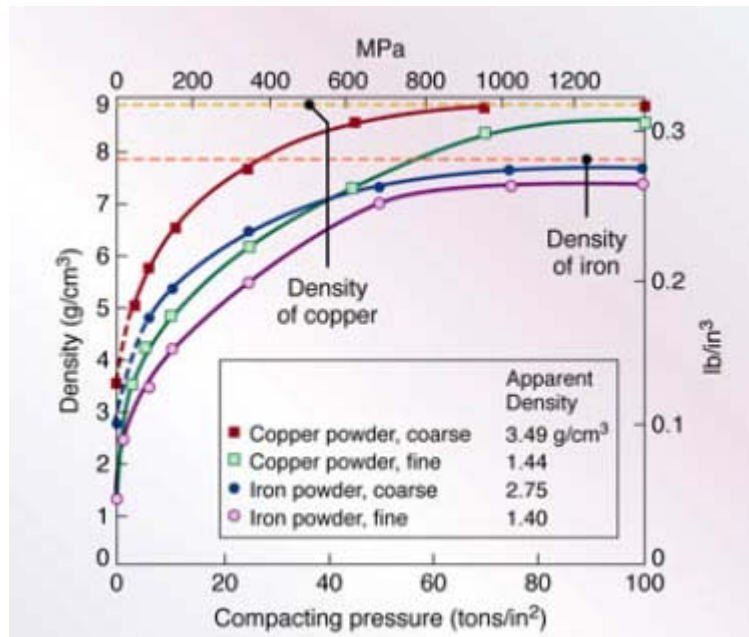

Figure Q2[c]
- [c] Based on Figure Q2[c], calculate the initial volume of loose, fine iron powder in order to make a solid cylindrical compact with diameter of 25 mm and height of 15 mm. (Hint: density of iron is indicated on the figure).**